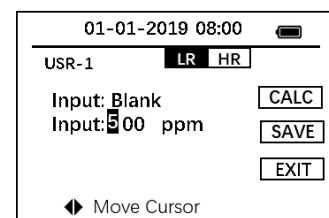

Figure 12.
9. Input the standard oil concentration using the four keys around the central **OK** key (Figure 12).